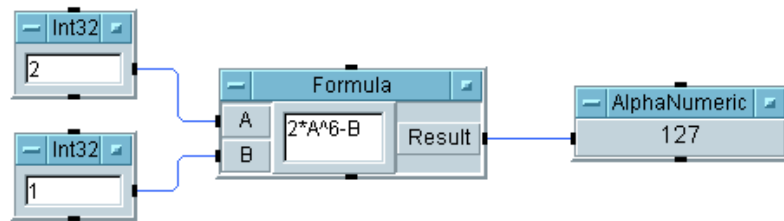

Figure 118 Evaluating an Expression
- 5 Select **Display** ⇒ **AlphaNumeric** and connect it to the output of Formula, and run the program. It should display the result 127, as shown in Figure 118.